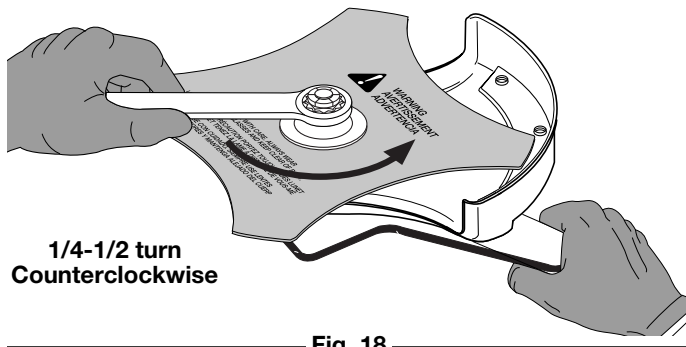

Fig. 18
- Without a torque wrench, use a 13 mm closed-end or socket wrench, turning the nut until the blade retainer is snug against the shaft bushing. Make sure that the blade is installed correctly, then rotate the nut an additional 1/4 to 1/2 turn counterclockwise (Fig. 18).